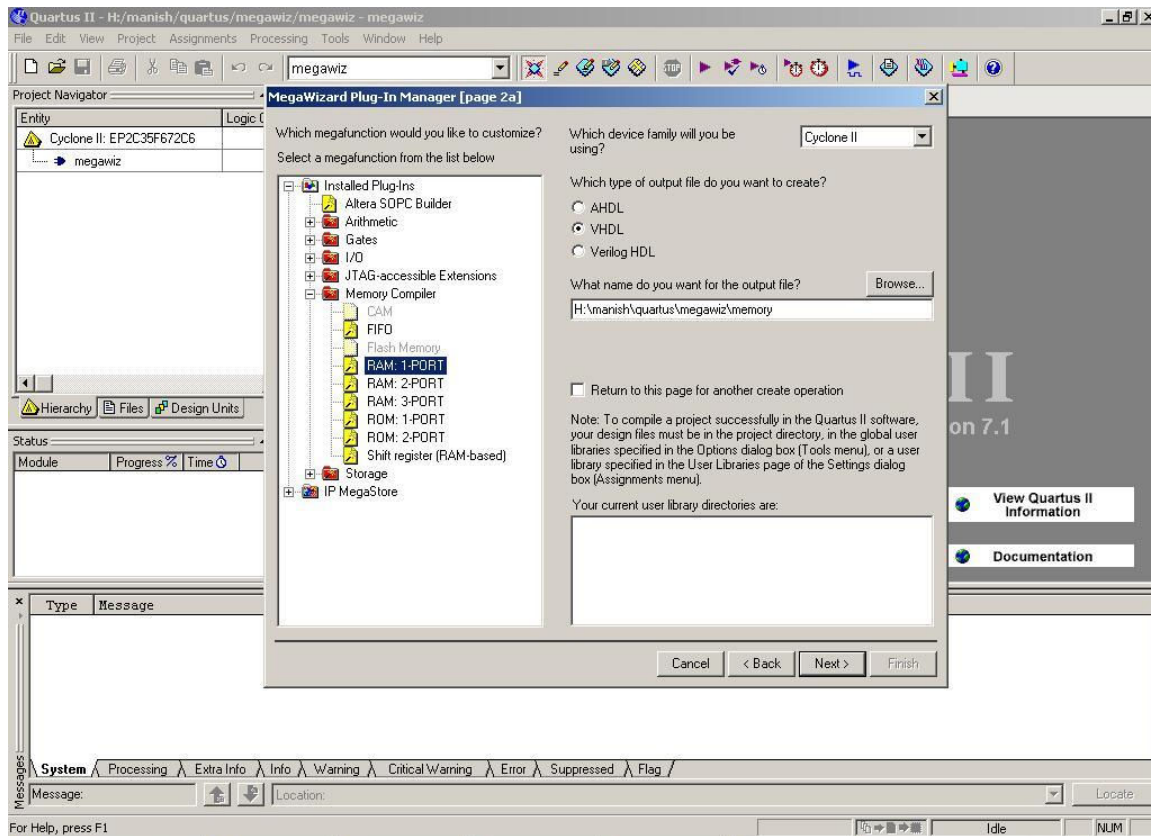

Fig. 2
- On the 2nd page select the device family “Cyclone II”. On the left hand side under the name memory compilers choose RAM: 1-PORT module as shown in the Fig 2. Type of output file that needs to be selected is VHDL. And finally name your output file. Then click Next.